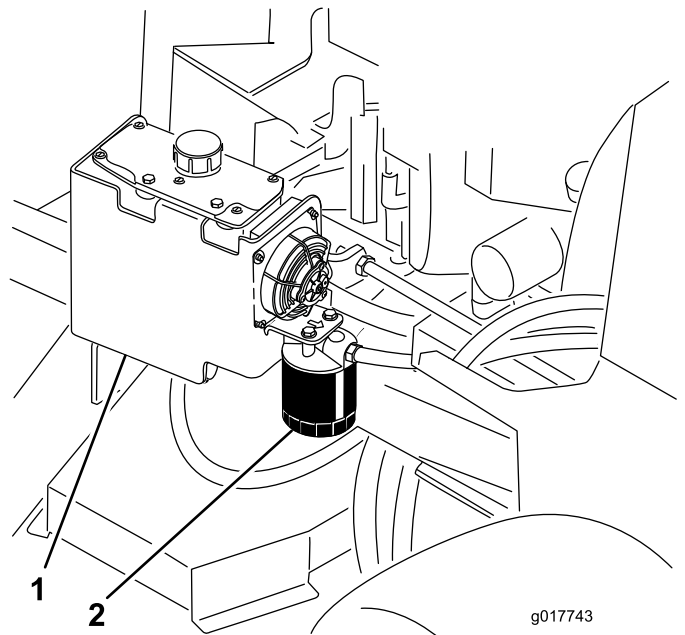

Figure 83
- Locate the filter and place a drain pan under filter (Figure 83).